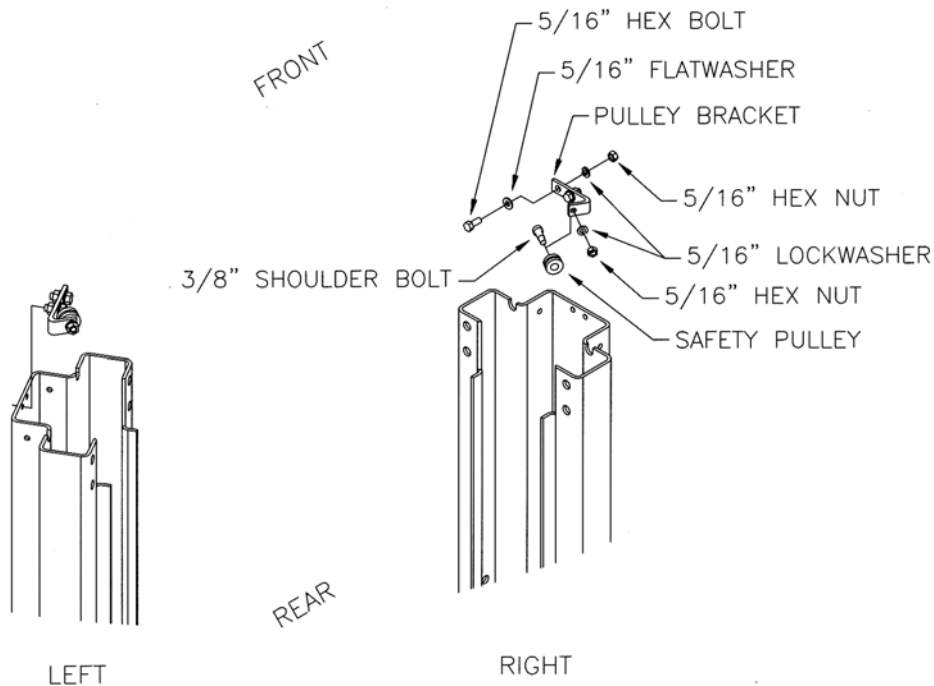

Figure 8 – Safety Release Cable Bracket
1. Install the safety release bracket on each tower as shown in **Figure 8**. Attach the safety pulley to the bracket using the 3/8" x 5/8" LG. shoulder bolt, 5/16" lockwasher and 5/16" hex nut. Attach the pulley bracket, complete with pulley, to the tower using the 5/16" x 3/4" LG. hex bolt, 5/16" flat washer, 5/16" lockwasher, and 5/16" hex nut.